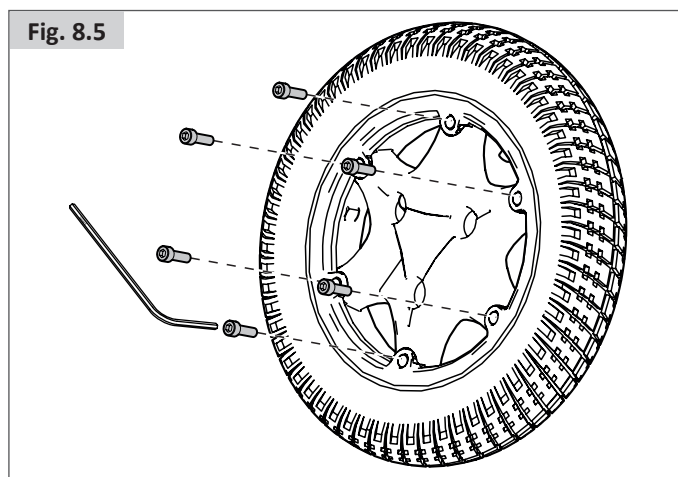

Fig. 8.5
- There are 6 rim studs that must be loosened/tightened in the number order shown, (Fig.8.5).
- Use a 5.0 mm Allen key to release/tighten the studs. (Fig. 8.5).
- Tighten the studs in the sequence shown in Fig.8.5, taking care not to pinch the tube.